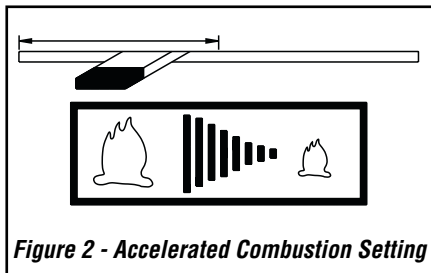

Figure 2 - Accelerated Combustion Setting
Step 2. Completely open the primary air control. See **Figure 2**.